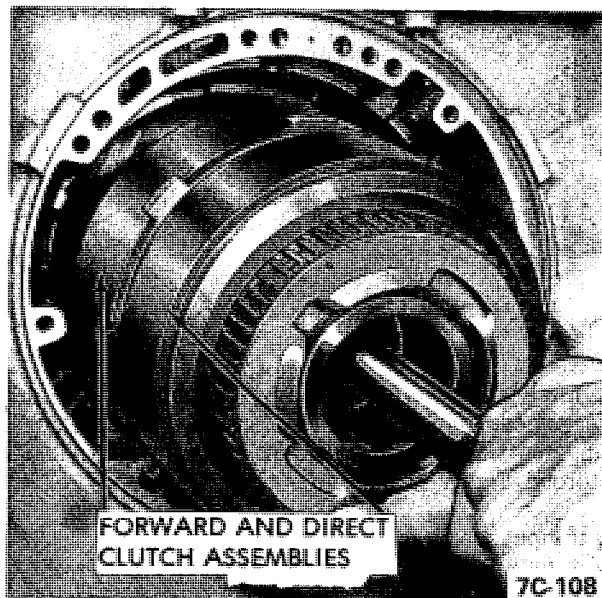

Figure 7C-153
2. Install direct clutch assembly to forward clutch assembly. Install assemblies into case making certain forward clutch faced plates are positioned over input ring gear and the tangs on direct clutch housing are installed into slots on the sun gear drive shell. See Figure 7C-153.